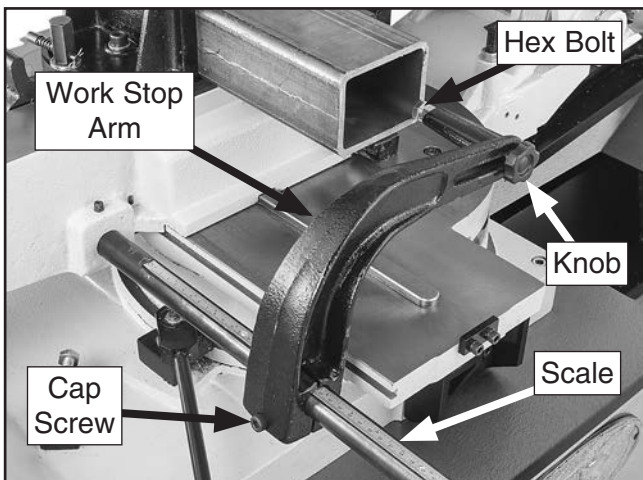

Figure 40. Work stop set for repetitive cutting operation.
- Loosen cap screw shown in **Figure 40**, and adjust work stop arm relative to depth of cut indicated on stop rod scale.
- Loosen work stop knob (see **Figure 40**), and adjust horizontal position of hex bolt relative to end of workpiece, then tighten cap screw and knob.